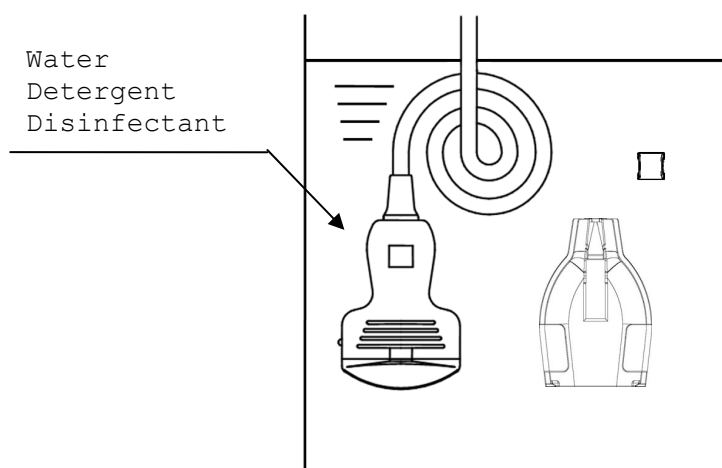

Fig. 13 Immersion of the probe, the magnetic sensor attachment and the spacer for EZU-RV2S
- 2) Immerse the immersible part of the probe without connector into the diluted detergent solution (see Fig. 13). Wipe the immersible part of the probe under the surface of the detergent solution with a soft cloth to remove all visible soil. Be sure that all grooves of the probe are implemented during the cleaning process.
- 5) Rinse the probe with running tap water for 1 minute. (alternatively: immerse the immersible part of the probe in a tray filled with deionized water/tap water (see Fig. 13) for 5 min.)
- 4) Rinse the magnetic sensor attachment and the spacer for EZU-RV2S with running tap water for 1 minute. (alternatively: immerse them in a tray filled with deionized water/tap water (see Fig. 13) for 5 min.)
- 3) Immerse the immersible part of the probe into the disinfectant (see Fig. 13). Set a clock to insure the recommended contact time which is 5 minutes.
- 4) Rinse the immersible part of the probe with deionized water for 1 minute. (alternatively: immerse the immersible part of the probe in a tray filled with deionized water (see Fig. 13) for 5 min.)
- 2) Immerse the magnetic sensor attachment and the spacer for EZU-RV2S into the disinfectant (see Fig.13). Set a clock to insure the recommended contact time which is 5 minutes.
- 3) Rinse the magnetic sensor attachment and the spacer for EZU-RV2S with deionized water for 1 minute. (alternatively: immerse them in a tray filled with deionized water (see Fig. 13) for 5 min.)